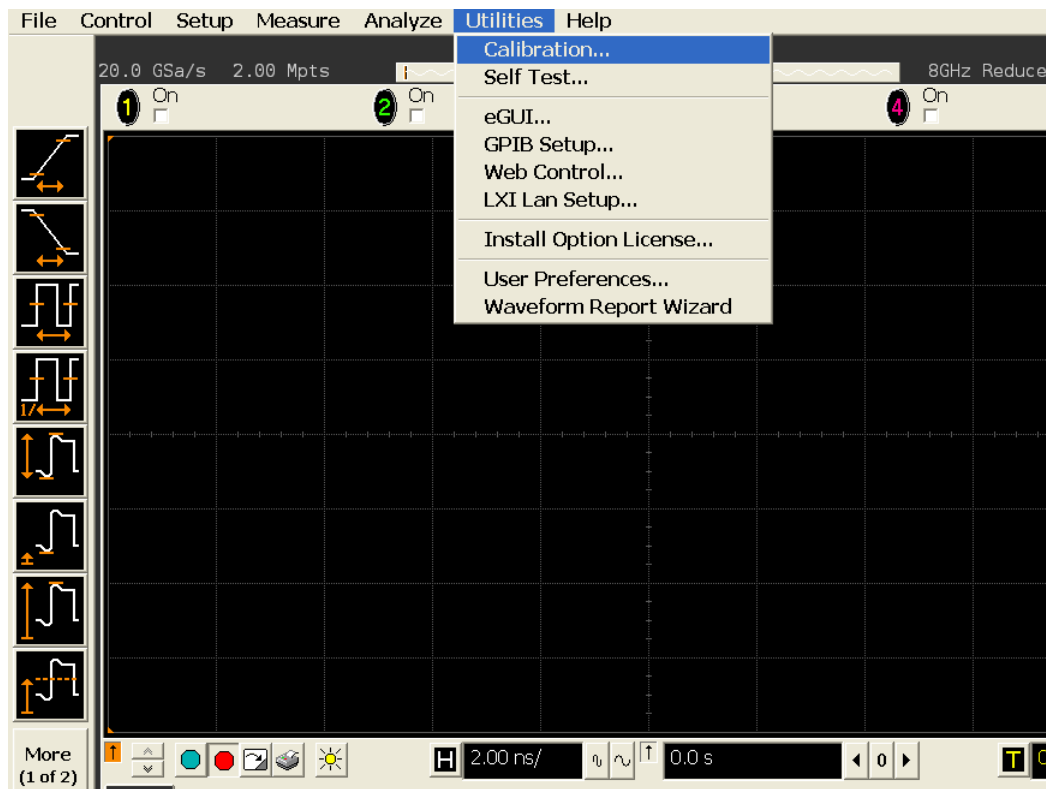

Figure 41 Accessing the Calibration Menu
- 3 Referring to Figure 41 below, perform the following steps: